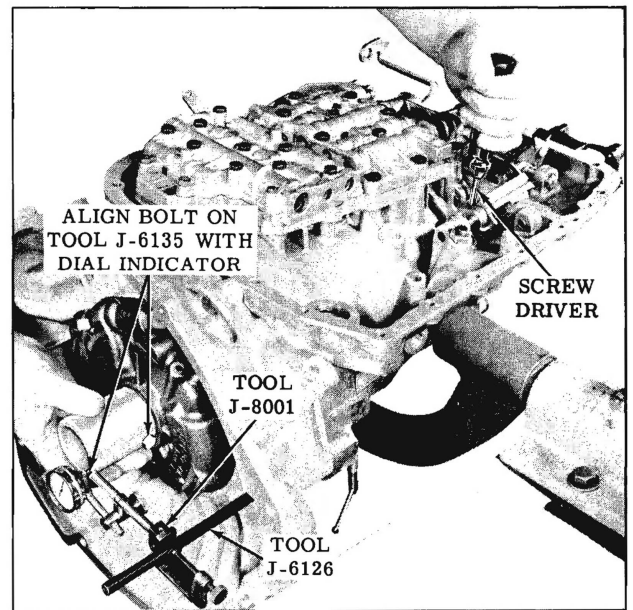

Fig. 3-313 Checking Front Unit End Play
- a. Remove one case cover to case attaching bolt and install tools as shown. (Fig. 3-313)